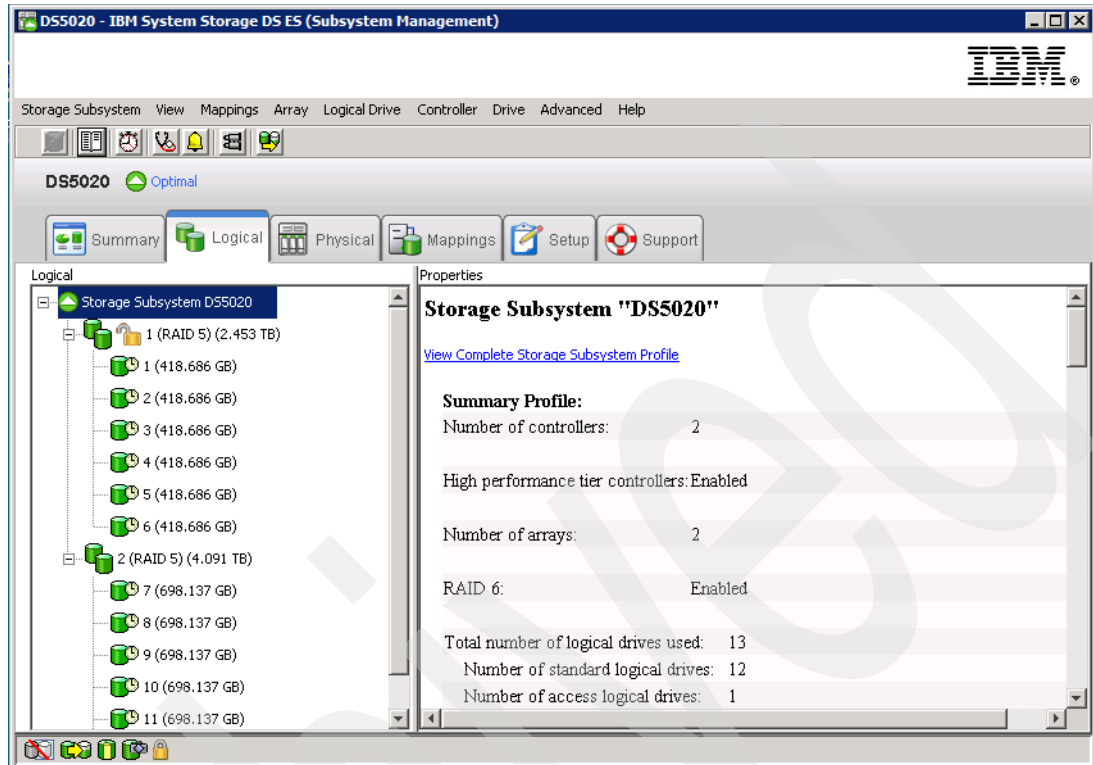

Figure 4-48 Automatic configuration results
- After completion, the Storage Manager shows the arrays, logical drives, and hot spares created automatically based on your input, as shown in Figure 4-48.